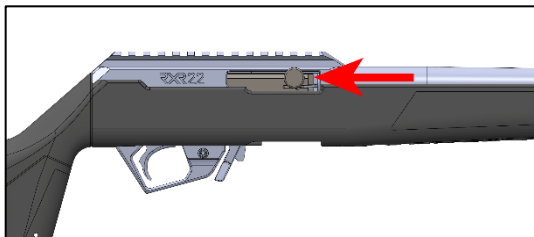

Figure 20
- Keep the muzzle pointed in a safe direction and keep your finger away from the trigger and outside the trigger guard. Grasp the cocking handle and briskly pull it fully rearward to extract any cartridge from the barrel's chamber and clear it from the firearm – Figure 20.